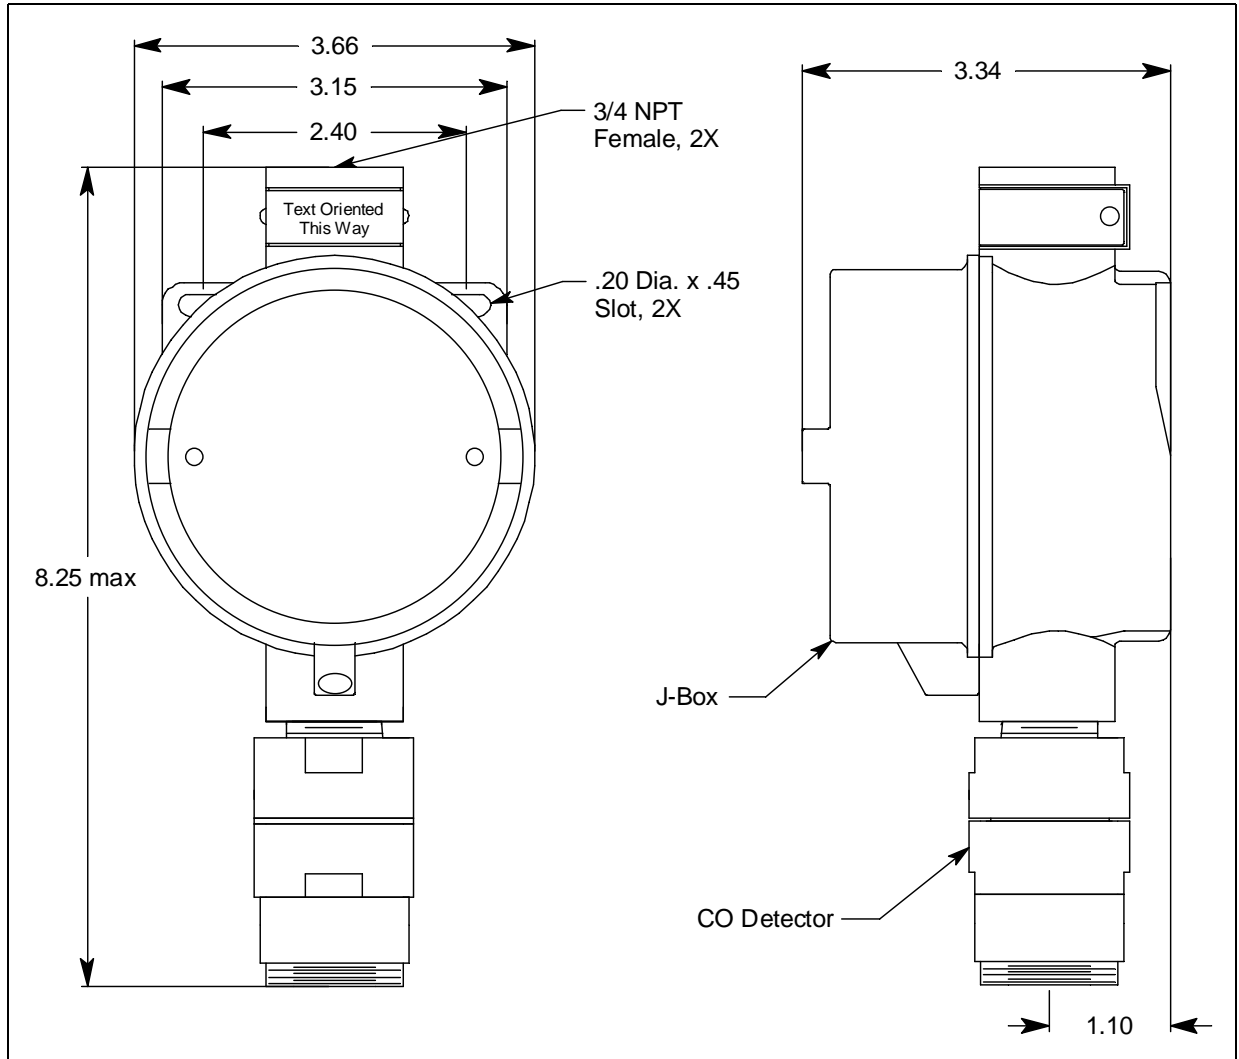

Figure 3: Outline & Mounting Dimensions
- At the monitoring site you select, hang or mount the junction box with the detector facing down (see Figure 3).